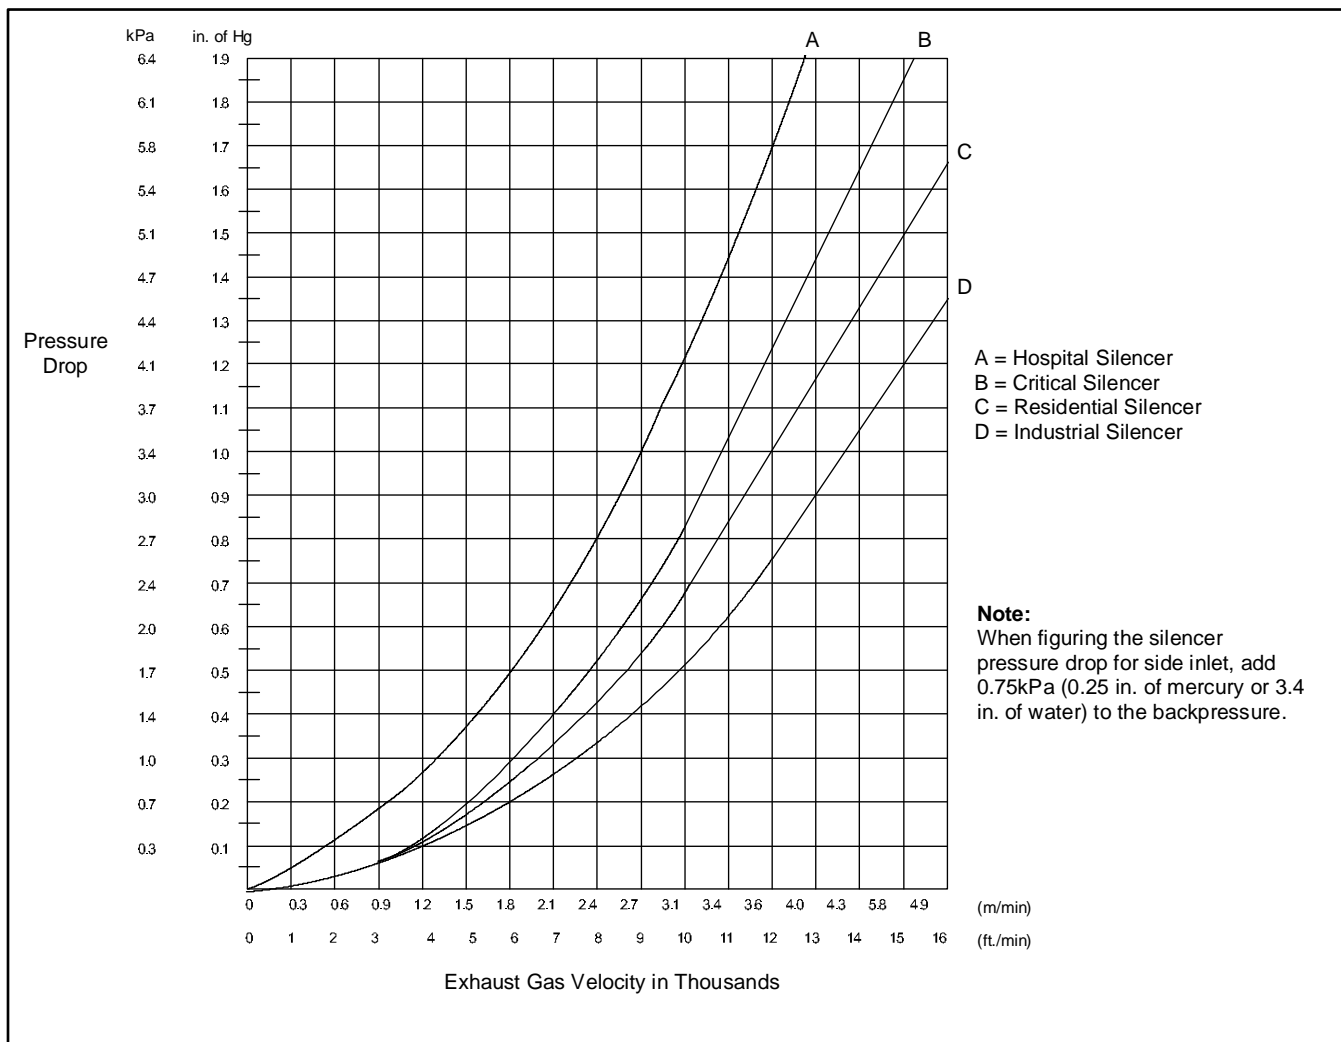

Figure 44 Silencer Backpressure Drop (in. of Hg)
5. Refer to Figure 44. Use the exhaust gas velocity determined in step 4 and find the exhaust gas velocity value in thousands on the bottom scale. Move vertically up until this value intersects the curve of the corresponding silencer type as determined in step 1. Move left on the horizontal axis and determine the backpressure drop value in kPa (in. of Hg).